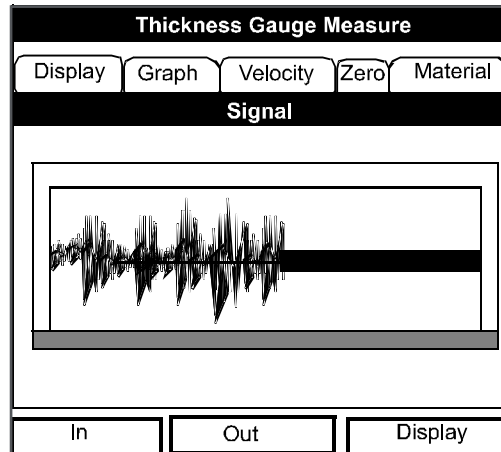

Figure 136: The Graph Window in Zoom Format
3. If the measurement seems unreasonable, examining the acoustic signal to diagnose the problem (in the Graph window on *Figure 136*).
Press **[F2]** (Cancel) or **[F3]** (OK) to return to Operate Mode, or press the **[▶]** arrow key to move to another window in the option. However, if you wish to adjust the graph, press the **[▼]** key. The screen now appears similar to *Figure 136*.